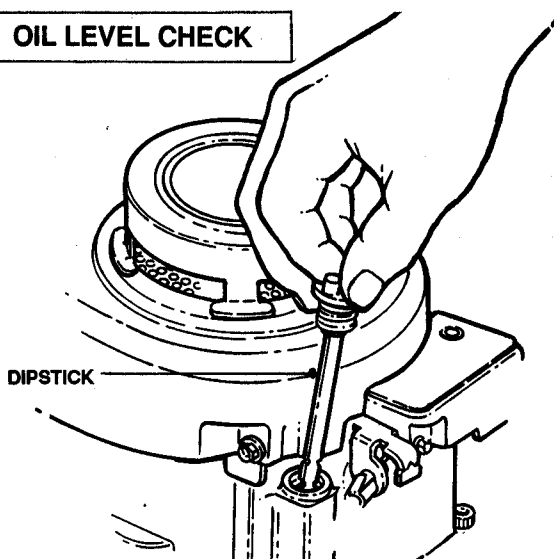

FIGURE 3
- **CHECK ENGINE OIL** and add oil as needed to bring level up to (but not over) the full mark. See Figure 3.